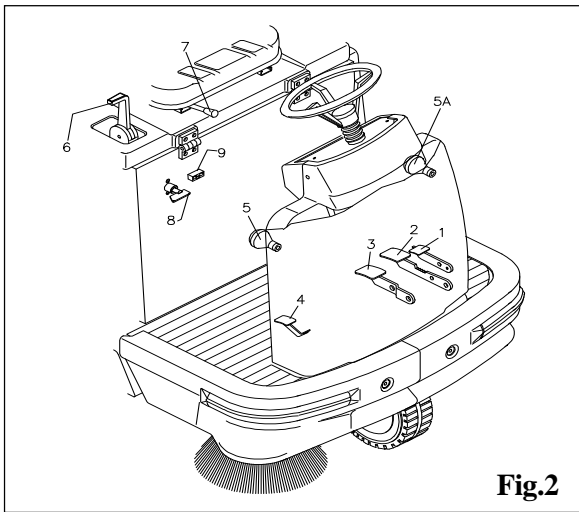

Fig.2
- 1: Place the brush-rising lever **5** Fig.2 on the **OFF** position.
- It is advisable to carry out this operation before the battery is mounted on the machine from being damaged by the electrolytic liquid of the battery. This operation should be done in a sufficiently ventilated environment. Do not smoke. Now put the battery in its housing and connect it appropriately, making sure to respect the polarity. Connect the battery charger to the socket **Fig 2** located on the rear part of the machine and charge for at least 2 hours. After charging, put the caps back on the battery cells.
Connect the battery charger (Fig.2)
- 2 Make sure the battery disabling key **8, fig. 2** is turned to **ON**.
- 5 If necessary, release the parking brake with the pedal **2, fig. 2**.
- 6 Press the accelerator pedal **4, fig. 2** to start the machine and reach the desired speed by means of the pressure of the same.
- 1 Lower the centre brush by pushing the appropriate lever **6, fig. 2** to **ON**.
- 2 If necessary, lower the side brush by operating the lever **5, fig. 2**.